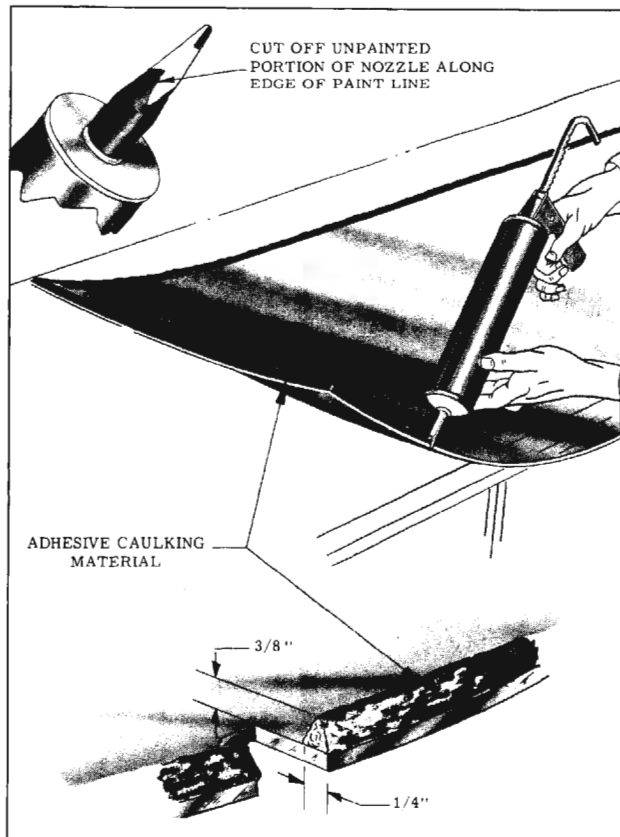

Fig. 16-219 Adhesive Caulking Material Application (Extended Method)
7. Cut off unpainted portion of cartridge nozzle along edge of paint line. (Fig. 16-219)
9. Carefully apply a smooth continuous bead of caulking material on inside surface of glass next to edge completely around glass. (Fig. 16-219) Caulking material should be approximately 1/4" wide at the base, and form a pyramid 3/8" high. If, during application, an air bubble is encountered in material, back up the applicator and apply sufficient material to fill the void and to disperse the bubble before continuing.